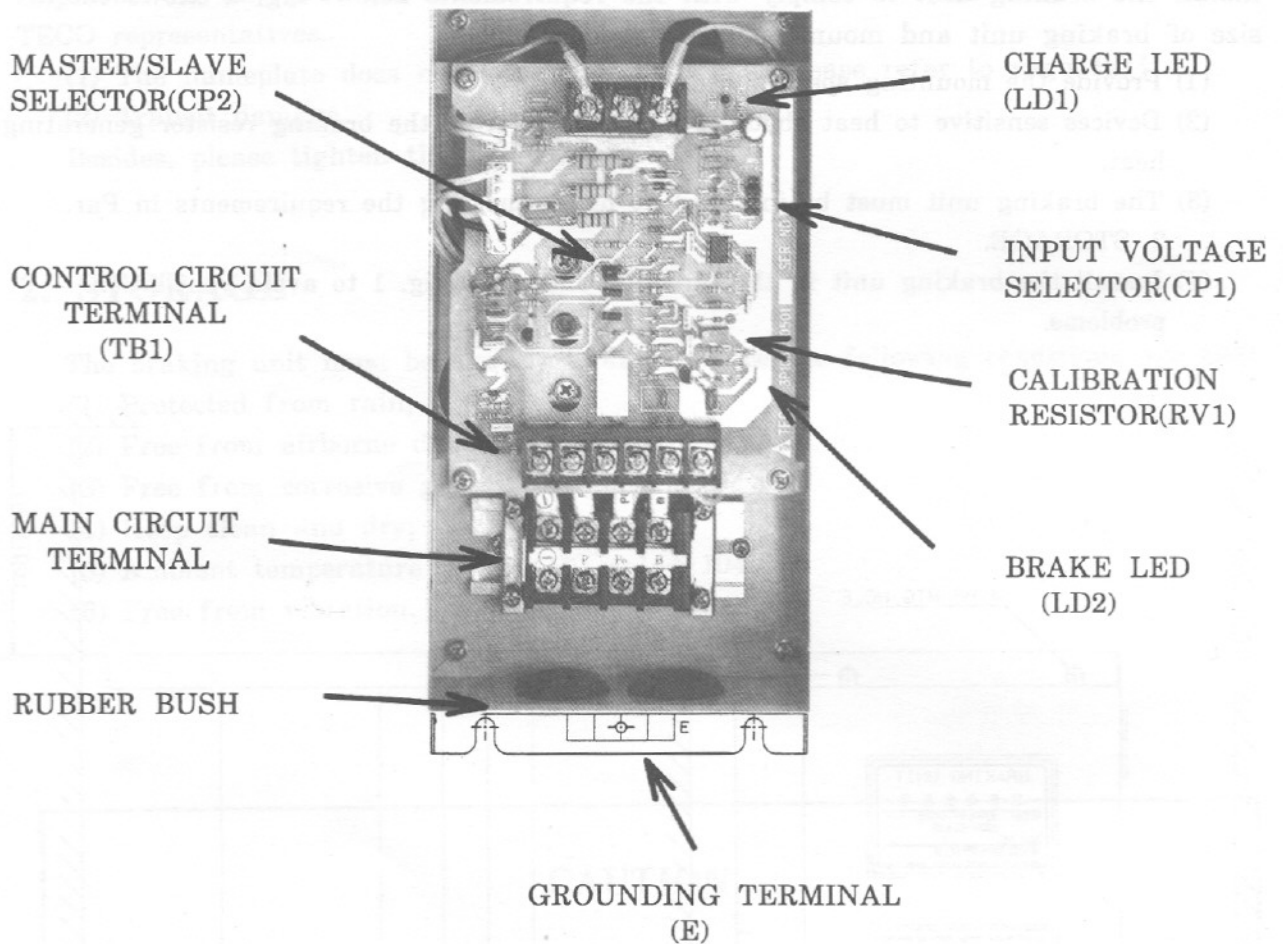

Fig. 2 Braking Unit JUVPLV--0040-----
- (1) Check the CP2 (MASTER/SLAVE SELECTOR) on each braking unit pcb (see Fig. 2). Only the CP2 of braking unit 1 is set on MASTER side and others are set on SLAVE side for braking units 2 and 3.